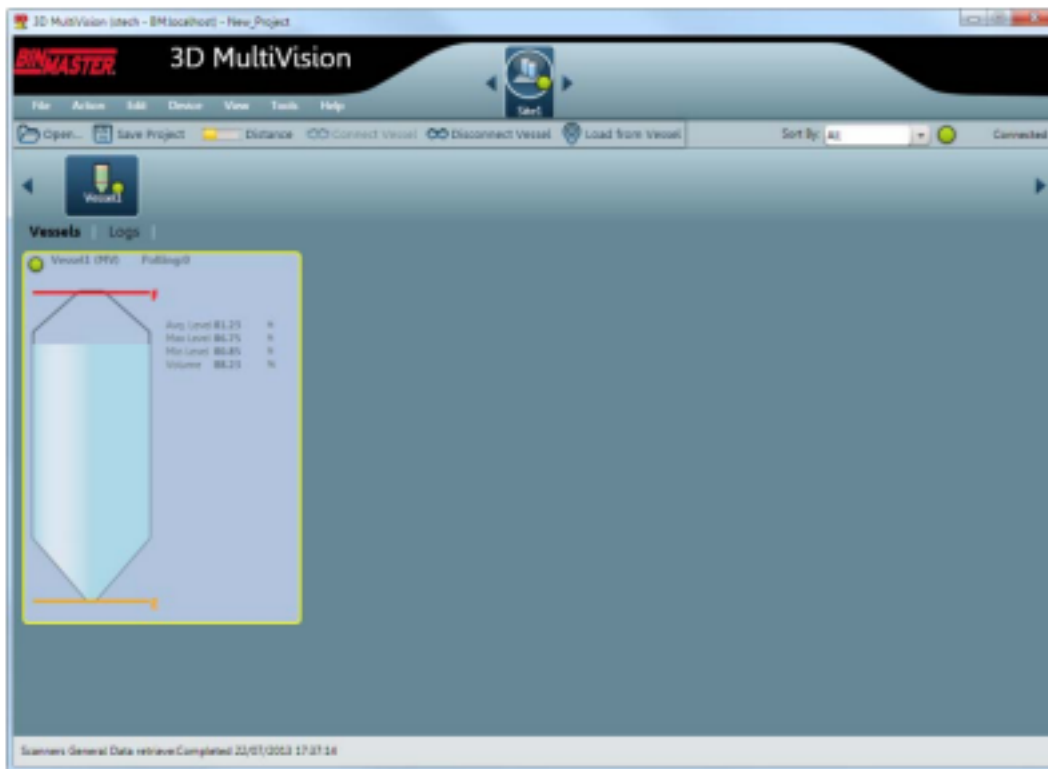

Figure 21: Project window
- 3 Enter the site name (limited to 16 characters), number of vessels in the site, and number of scanners in each vessel. Sites, vessels, and scanners can be edited later. Select the connection type between the 3DVision Server computer and the scanners in the site. Hart modem (limited to one scanner on a COM port), RS-485, TCP/IP, GPRS and GPRS+SMS connections are available. The very basic connection method is RS-485, select the serial COM port for the server PC connection. Click **Finish**. The new project is created and the Vessels and sites appear on the main screen (Figure 21). For more advanced connection methods, please refer Communication Methods on page 41.